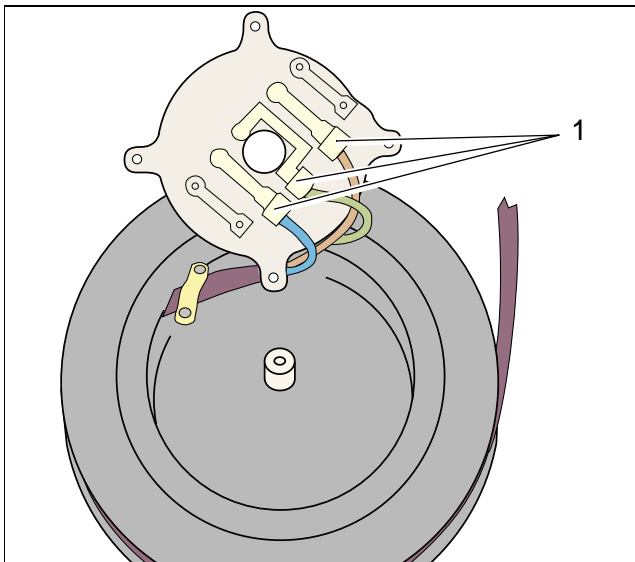

Fig. 6
- Remove connection plate and disconnect the mains cable (pos. 1 / Fig. 6).